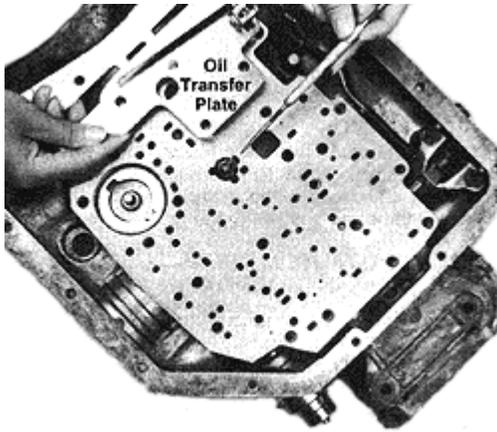

Figure 7
STEP 14 Install separator plate, gasket and stock support plate **(See Figure 7)** Install support plate bolts finger tight. Remove center pan bolt. Make sure plate does not drop far enough to lose check balls.